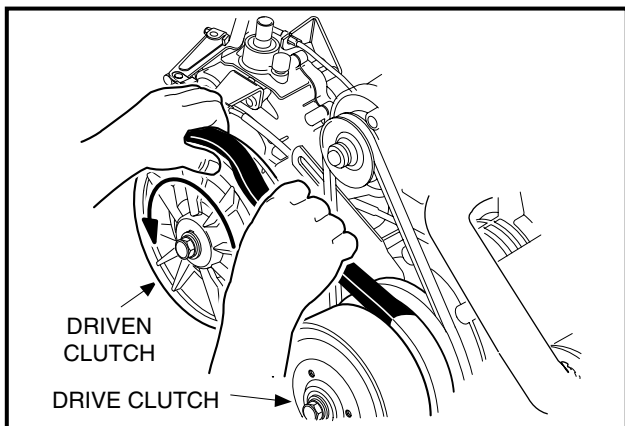

Figure 16-32 Remove Drive Belt
- 16.1. Grasp belt midway between drive and driven clutch and pull up on belt to force the driven clutch sheaves apart. Roll the belt counterclockwise while pulling it off driven clutch (**Figure 16-32, Page 16-14**).